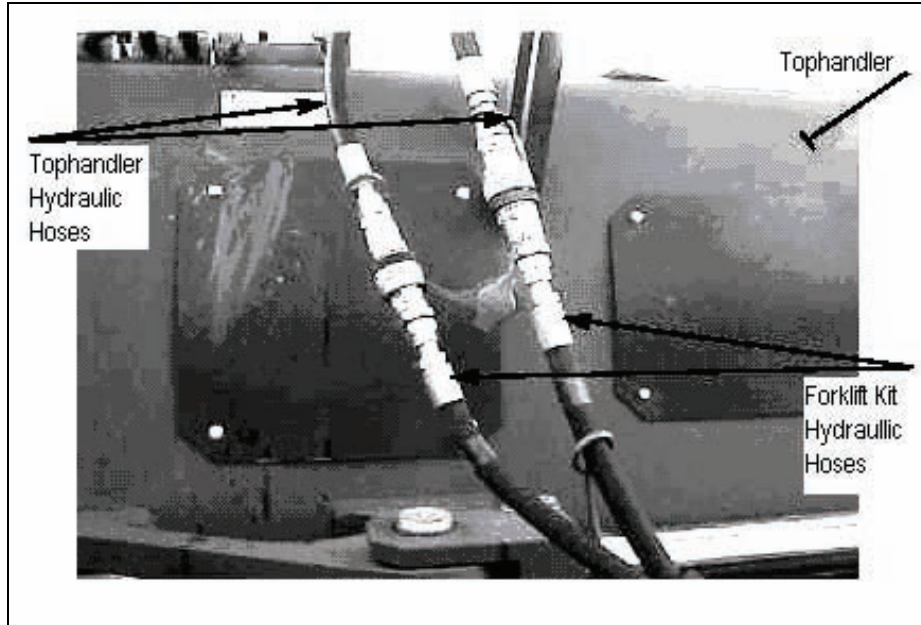

Figure 3-160. Removing Protective Caps From Forklift Kit Hydraulic Hose Connectors
- d. Remove protective caps from forklift kit hydraulic hose connectors and connect the two forklift kit hydraulic hose quick disconnects to the hydraulic hose quick disconnects that were disconnected from the tophandler (see Figure 3-160).